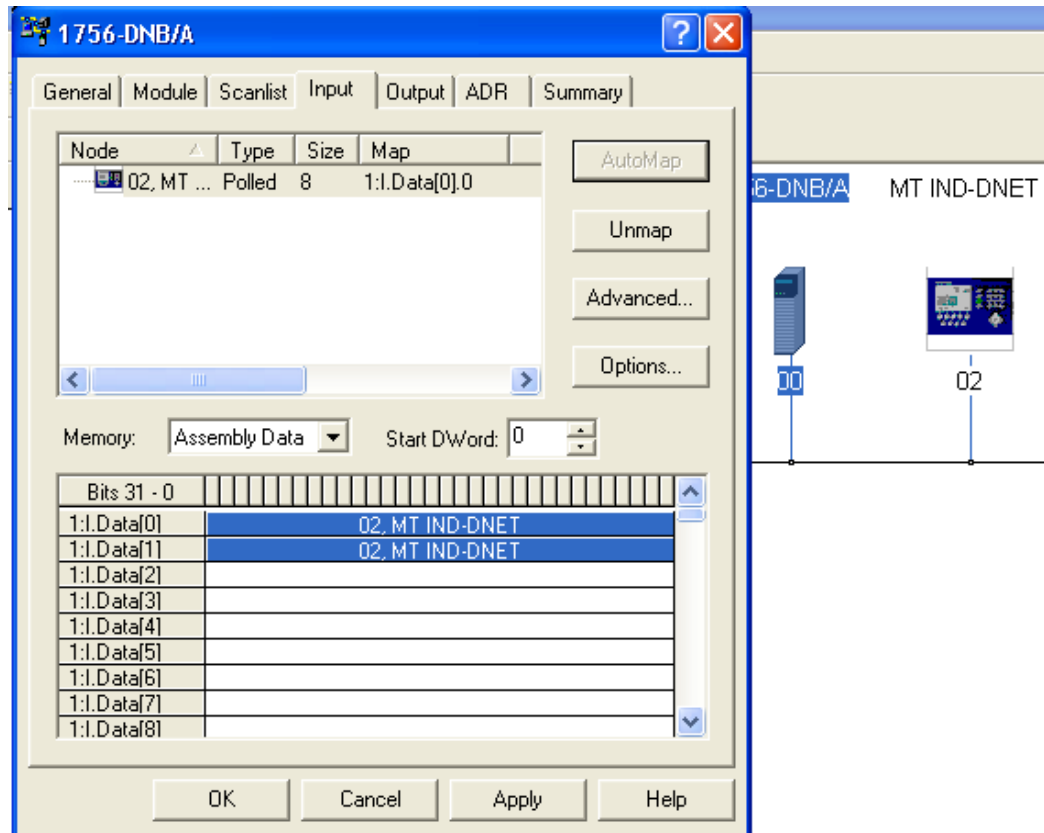
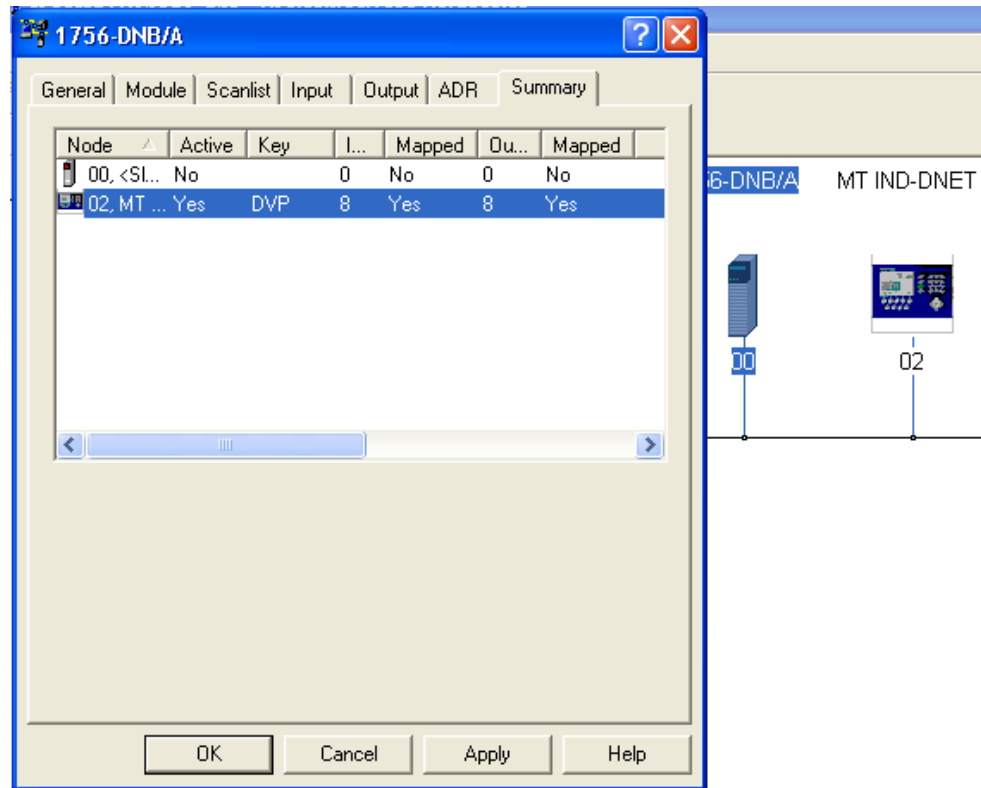

Figure 5-22: IND Terminal Mapping
Figure 5-23: Summary Tab
11. Once the IND Terminal has been added to the scanlist, access the Properties dialog to verify its I/O mapping (Figure 5-22 and Figure 5-23) within the scanner card. Note that auto or manual mapping can be used. Consult the master's documentation for advance I/O mapping options. If manual mapping is used. Be sure to start with an unused section of memory for offset.